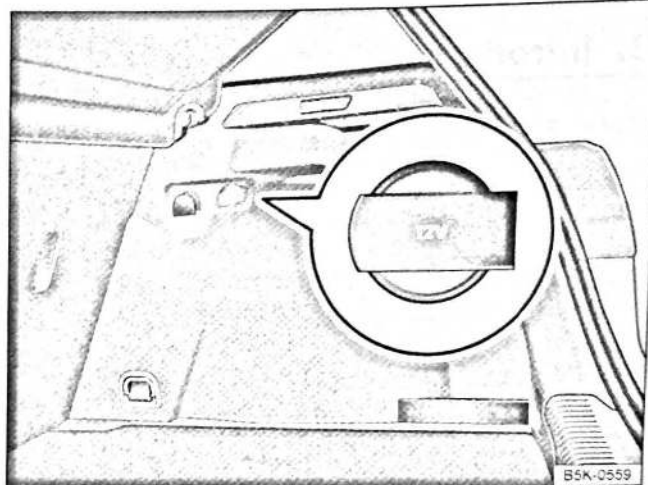

Fig. 125 In the luggage compartment: 12-volt socket
- In the luggage compartment ⇒ Fig. 125.